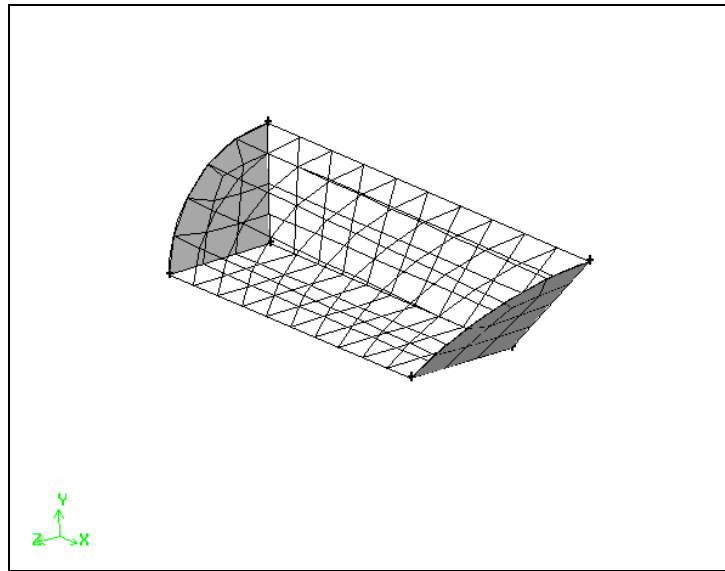

Figure 4-24: Mesh generated for the first small volume in the burner geometry
*Notice that all faces are meshed before GAMBIT meshes the volume. The mesh is shown in Figure 4-24.*